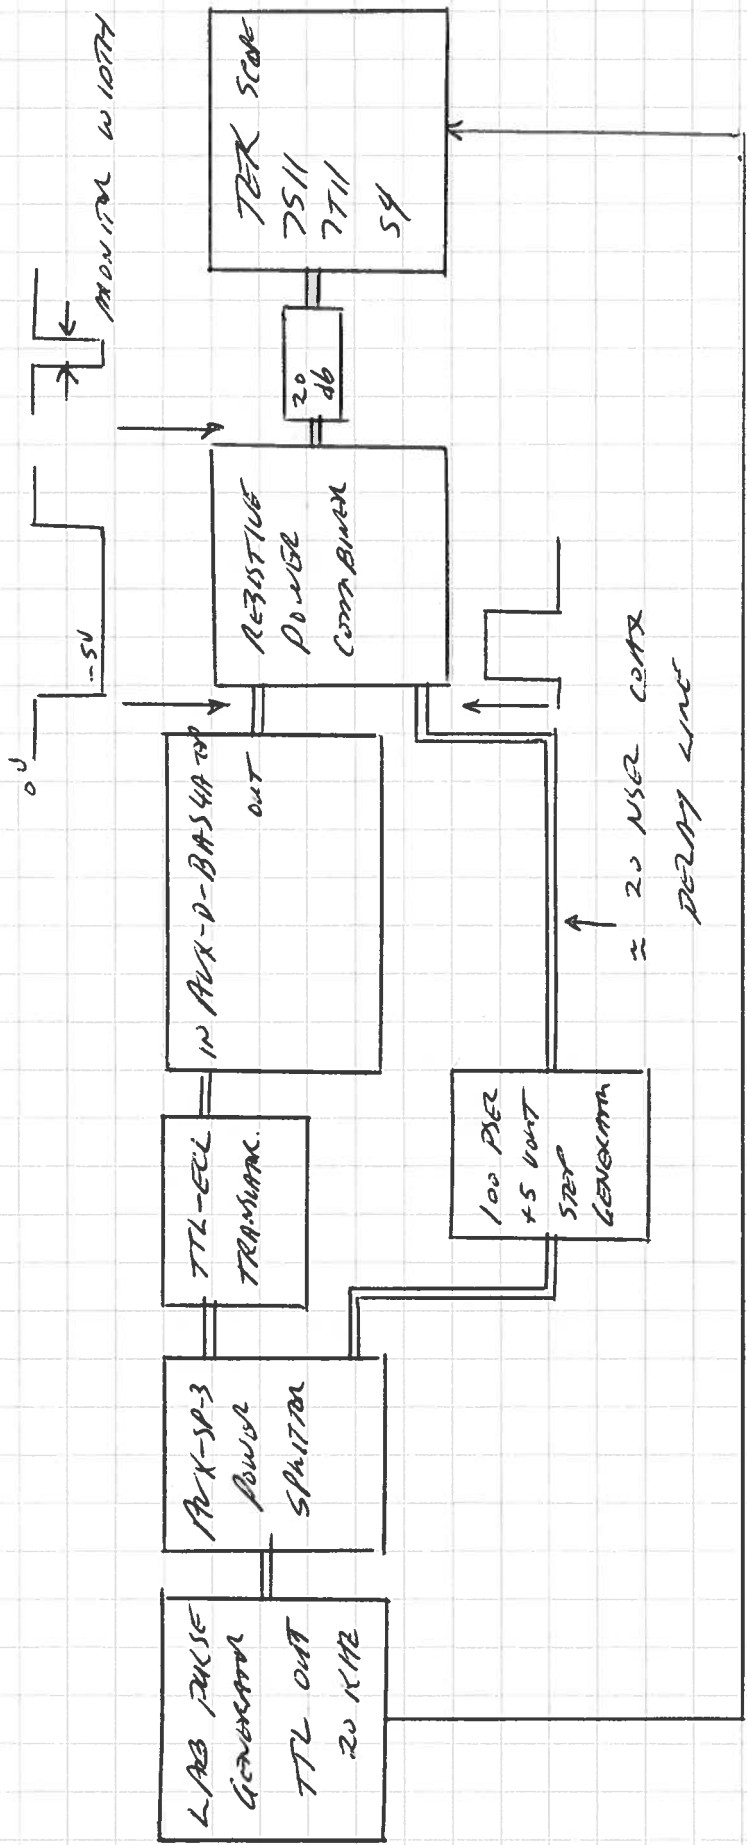

FIG 1 AVER-D-BASSHA COAX DELAY STABILIZER
- 5) The stability of the propagation delay and the step size was checked using the test arrangement shown in Fig. 1.